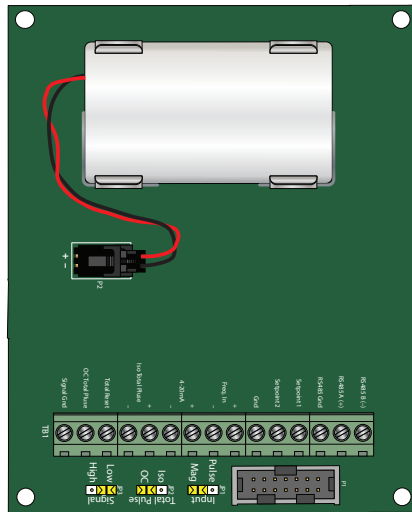

Figure 19: NEMA 4X battery replacement
**NOTE:** The battery is held in place with a wire-tie that will need to be cut and replaced (see *Figure 19*). The approval on the product requires the wire-tie.